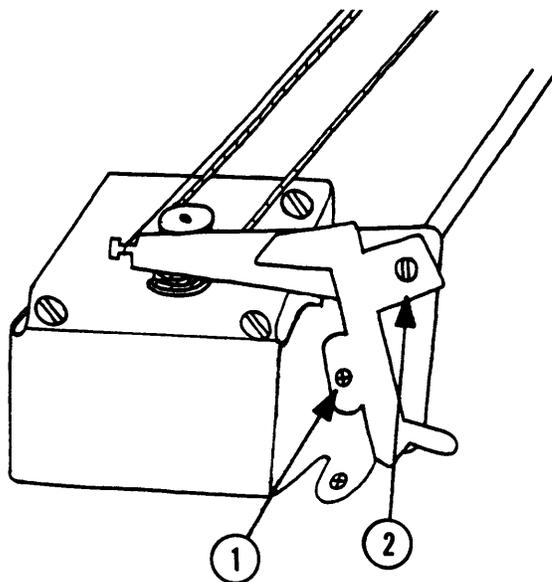

FIGURE 21
8. **(Omit this step for the 15-Inch ImageWriter.)** Remove the screw (Figure 21, #1) on the left end of the carrier guide shaft, and set aside the support brace.
9. Remove the screw (Figure 21, #2) on the left end of the guide shaft, and remove the ribbon wire arm.